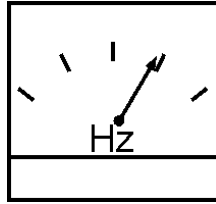

Figure 44. Frequency Meter (Hz)
9. The generator's frequency meter (Figure 44) displays the 50 cycle output frequency in **HERTZ**.